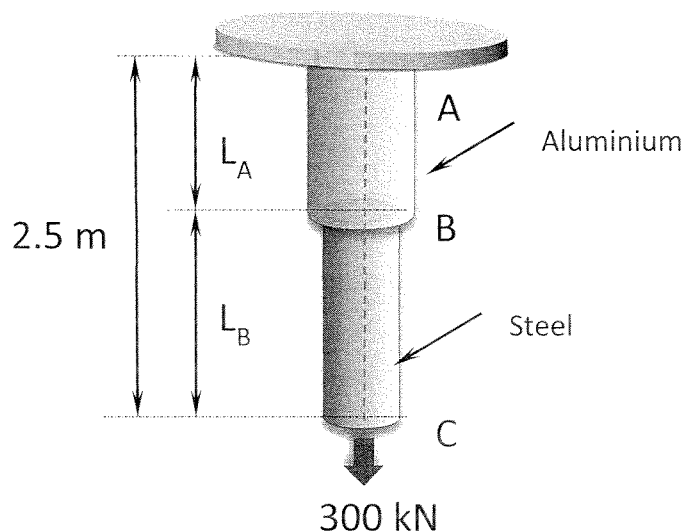

Figure Q1 (b)
- (c) A steel rod ABC is firmly held between two rigid supports A and C as shown in Figure Q1 (c). Find the stresses developed in the two portions of the rod, when it is heated through 15 K . Take $\alpha = 12 \times 10^{-6} / \text{K}$ and $E = 200\text{ GPa}$.